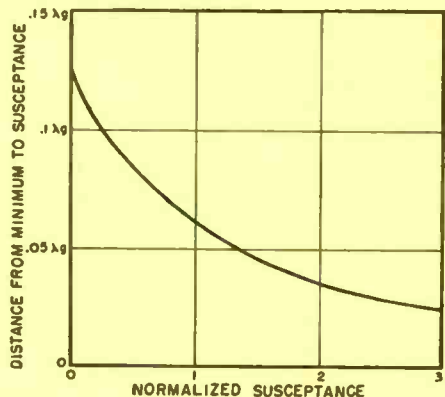

Fig. 14. Plot of the distance from minimum to susceptance (d) vs. the normalized susceptance (B).
where  $d_1$  is the distance between the reflecting element and a voltage minimum. If the reflecting element is inductive ( $B$  is negative) it should be placed at a distance  $d_1$  on the load side of a minimum, while if capacitive it should be placed at a distance  $d_1$  on the generator side of a minimum. The distance  $d_1$  is plotted against  $B$  in Fig. 14.
1. From Eq. (24) the susceptance  $B$  must be equal to 0.82.
2. From Fig. 14 this susceptance should be located at a distance  $d_1 = .070 \lambda_g = .123$ " toward the load ( $B$  is negative) from a voltage minimum. For minimum frequency sensitivity the susceptance (usually in the form of a window) should be placed as near the load as possible, yet not so near that there will be interaction of the higher modes.